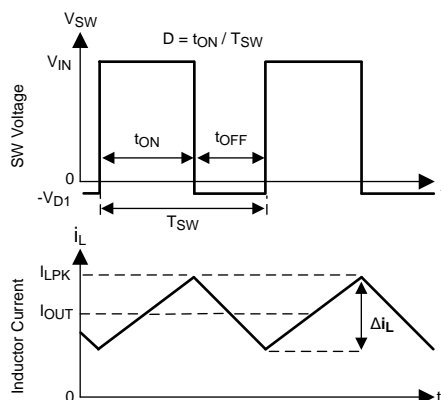

Figure 33. SW Node and Inductor Current Waveforms in Continuous Conduction Mode (CCM)
The following operating description of the LM43601-Q1 refers to the Functional Block Diagram and to the waveforms in Figure 33. The LM43601-Q1 is a step-down buck regulator with both high-side (HS) switch and low-side (LS) switch (synchronous rectifier) integrated. The LM43601-Q1 supplies a regulated output voltage by turning on the HS and LS NMOS switches with controlled ON time. During the HS switch ON-time, the SW pin voltage V_{SW} swings up to approximately V_{IN} , and the inductor current I_L increases with a linear slope $(V_{IN} - V_{OUT}) / L$. When the HS switch is turned off by the control logic, the LS switch is turned on after a anti-shoot-through dead time. Inductor current discharges through the LS switch with a slope of $-V_{OUT} / L$. The control parameter of Buck converters are defined as duty cycle $D = t_{ON} / T_{SW}$, where t_{ON} is the HS switch ON time and T_{SW} is the switching period. The regulator control loop maintains a constant output voltage by adjusting the duty cycle D . In an ideal Buck converter, where losses are ignored, D is proportional to the output voltage and inversely proportional to the input voltage: $D = V_{OUT} / V_{IN}$.